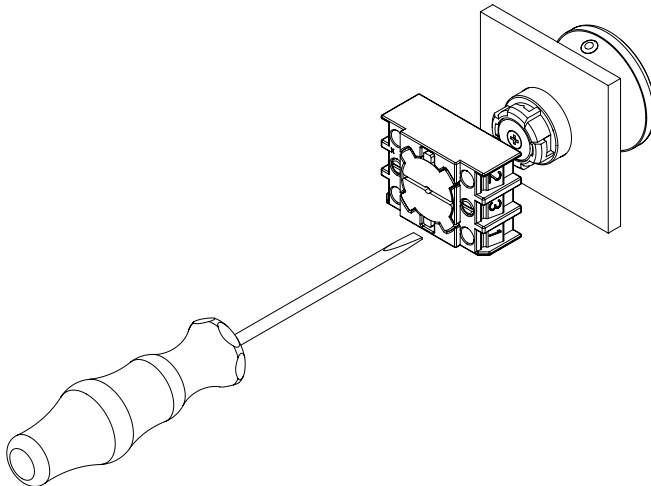

Fig. 10
2. Removal of the mounting flange is carried out by loosening the screws on the mounting flange. The mounting flange is then turned approx. 45° in anti-clockwise direction and removed (see fig. 10).